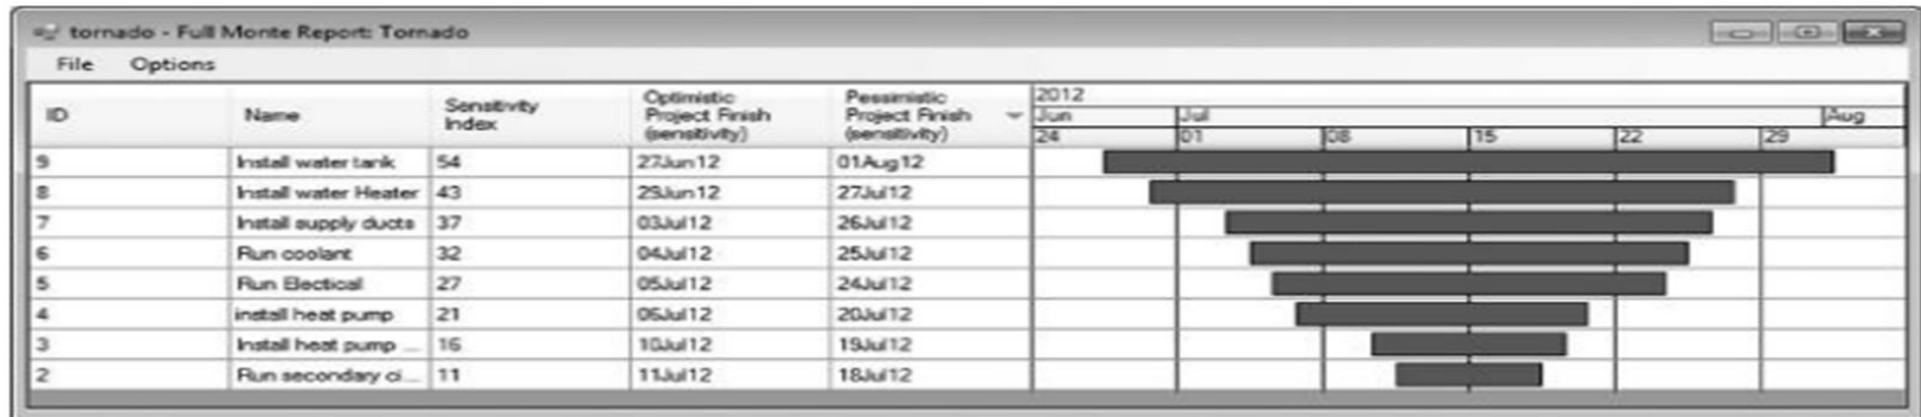

Figure 22.3 Tornado diagram. (From Barbecana, Inc. 2011b. Full Monte™ User Guide.)
- ❑ An example of a tornado diagram is shown in Figure 22.3.